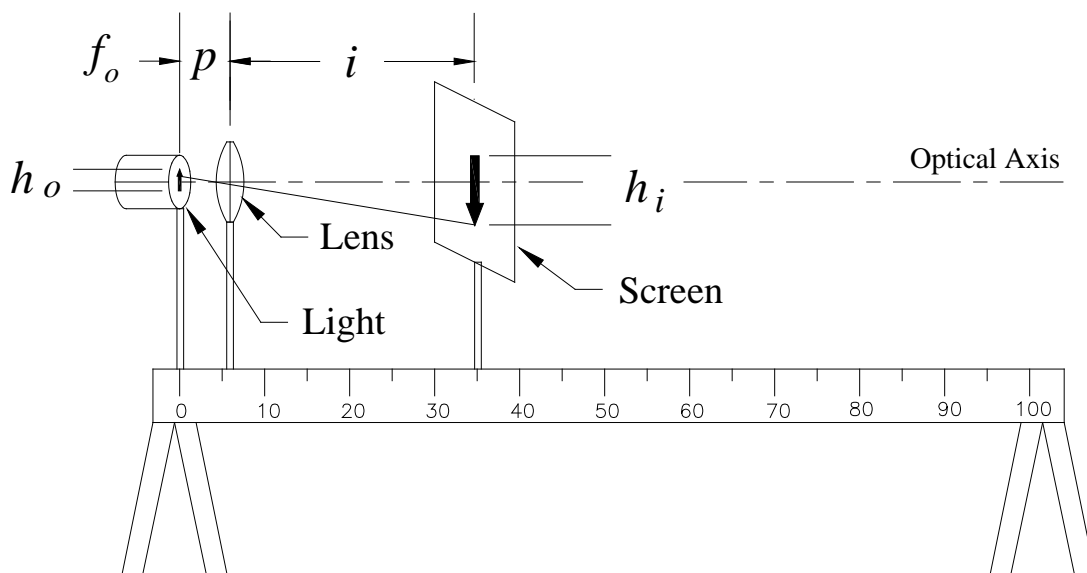
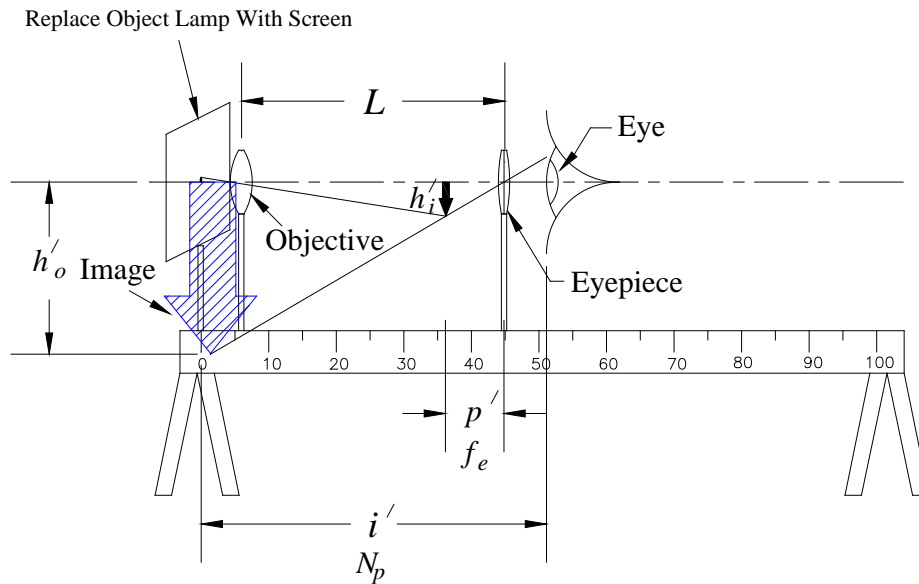

Figure 6 Diagram showing the first step in the construction of a microscope.
Figure 7 Diagram showing the second step in constructing a microscope.
By using a combination of two lenses a compound microscope can be constructed which has much greater magnifications can be obtained than with a single lens. The first lens is called the **objective** and typically has a short focal length. The object is placed very close to the focal point, f_o , so that an enlarged inverted image is produced. See Figure 6. The magnification, h_i/h_o , due to the objective is found from the ratio of the image distance to the object distance, i/p . This image can be magnified further by using a simple magnifier, which is called the **eyepiece** and has a focal length f_e . See Figure 7. The magnification of the eyepiece is given by the ratio of image to object distance, i'/p' . The placement of the eyepiece is important to get a sharply focused image. This happens when the object distance to the eyepiece is approximately equal to its focal length. In a
11) Mount the short focal length lens at about the 6 cm point on the optical bench. Mount the crossed arrow light source at 0 cm, and the white viewing screen at 35cm. See Figure 6.
13) Now replace the illuminated source with the screen grid target making sure you do not move the position of the mount. You want to keep the object distance the same so that the magnification stays the same as with the illuminated source. Position the medium focal length lens a distance approximately equal to its focal length away from the where the screen was in step 12. This lens is the eyepiece. See Figure 7. Look through the eyepiece at the object. You will need to place your eye at the *exit pupil* so that as you look through the lens the image completely fills the field of view of the eyepiece. The exit pupil is formed where the eyepiece creates an image of the objective lens. In this case it should be about 10 to 12cm behind the eyepiece. Once you have your eye positioned correctly move the eyepiece closer or farther from the objective lens until the image is in focus. Note that the position of the light source and the screen holder might be a millimeter or so different. If this is the case you will need to move the objective lens slightly to get the best focus. Estimate the magnification as you did with the simple magnifier, by comparing the unmagnified